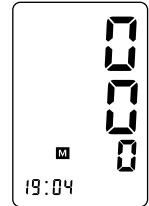

Figure 4
- Press and hold the MEMORY button again until the measured values are replaced by zeroes (Figure 4). The memory has now been deleted.